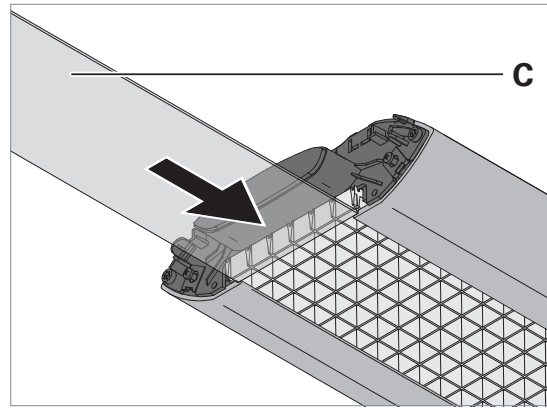

Fig. 21: Sliding in the protective cover.
- ▶ Slide the protective cover **C** into the luminaire below the parabolic grid, see Fig. 21.